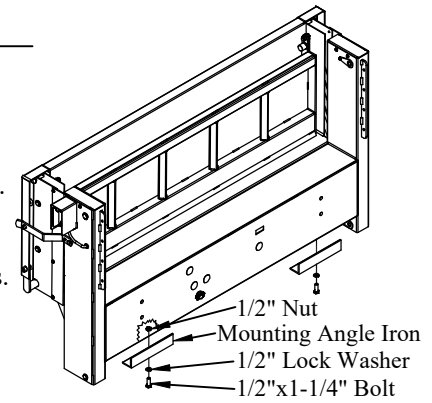

Figure 10: Mounting angle iron location.
- 1. Install** the two (2) mounting angle irons to the bottom of the liftgate (Figure 10).
- 2. Bolt** the bracket plates to the truck frame (Figure 10).